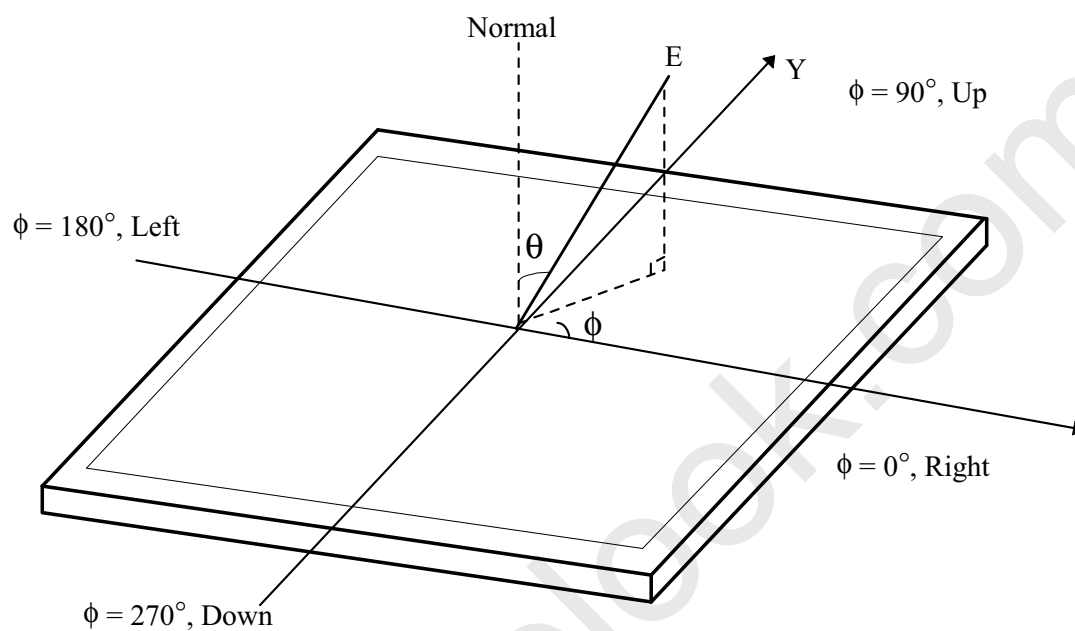

FIG. 4 Viewing Angle
- Viewing angle is the angle at which the contrast ratio is greater than 10. The angles are determined for the horizontal or x axis and the vertical or y axis with respect to the z axis which is normal to the LCD module surface. For more information, see the FIG. 4.